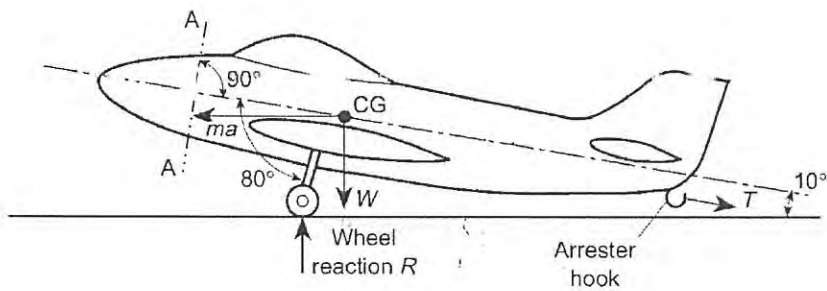

Figure Q3(b)
- (b) **Figure Q3(b)** shows an aircraft having a total weight of 45 kN lands on the deck of an aircraft carrier. It is brought to rest by means of a cable engaged by an arrester hook. If the deceleration induced by the cable is 3g, determine: